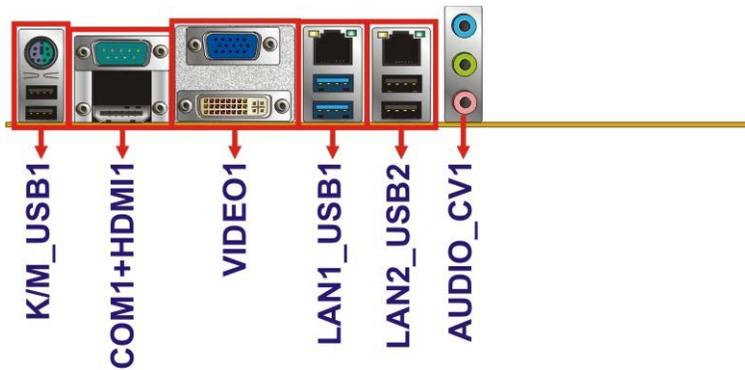

Figure 3-28: External Peripheral Interface Connector
| CN Location: | See Figure 3-28 |
- CN Location:** See **Figure 3-28**
CN Location: See **Figure 3-28**